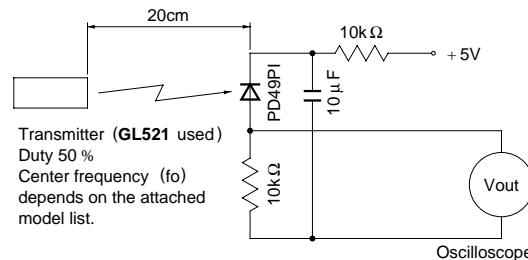
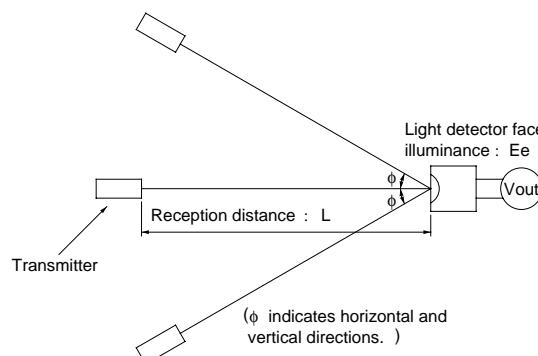

Fig. 1. Transmitter
Fig. 2. Standard optical system
*3 The burst wave as shown in the following figure shall be transmitted by the transmitter shown in Fig. 1.
Using the transmitter shown in Fig. 1, the output signal of the light detecting unit is good enough to meet the following items in the standard optical system in Fig. 2.
When $L = 0.2$ to 6.5m , $E_e < 10 \text{ lx}$ and $\phi = 0^\circ$ in Fig. 2, the output signal shall meet the electrical characteristics in the attached list.
When $L = 0.2$ to 4.5m , $E_e < 10 \text{ lx}$ and $\phi \leq 30^\circ$ in Fig. 2, the output signal shall meet the electrical characteristics in the attached list.
When $L = 0.2$ to 3m , $E_e \leq 300 \text{ lx}$ and $\phi = 0^\circ$ in Fig. 2, the output signal shall meet the electrical characteristics in the attached list.